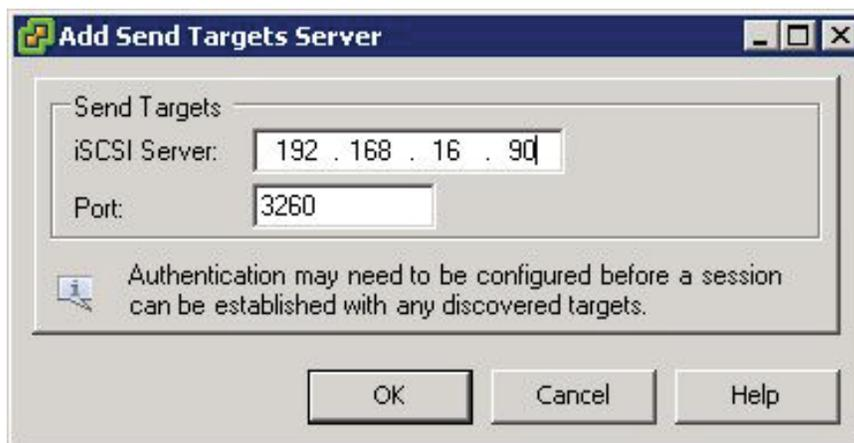

Figure 40 Add send targets server dialog box
- d. Enter the mpx100's/100b's iSCSI IP address (Figure 40) and then click **OK**.